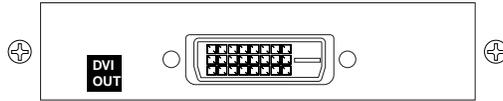

Figure 2-9 — Optional DVI output board
- 9a) **DVI output connector (optional)** — If the optional DVI output board (figure 2-9) is installed, connect a DVI/HDMI-compatible video display to this DVI connector. This connector outputs the program image only. For an HDMI-compatible display, connect the display through a DVI-to-HDMI adapter, part #26-497-01 (DVI [male] to HDMI [female] adapter) or 26-498-01 (DVI [female] to HDMI [male] adapter).